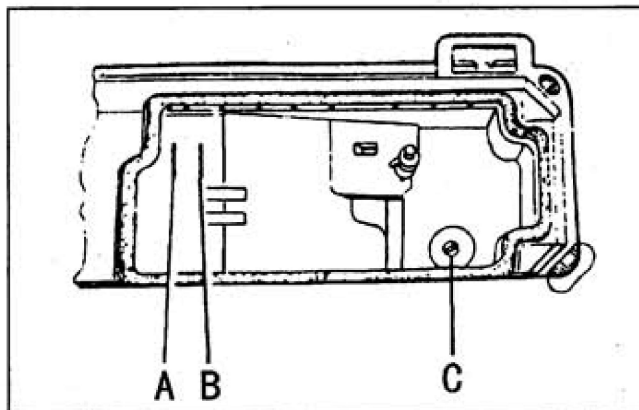

Fig. 3
4. PREPARATION AND LUBRICATION (Fig.3)